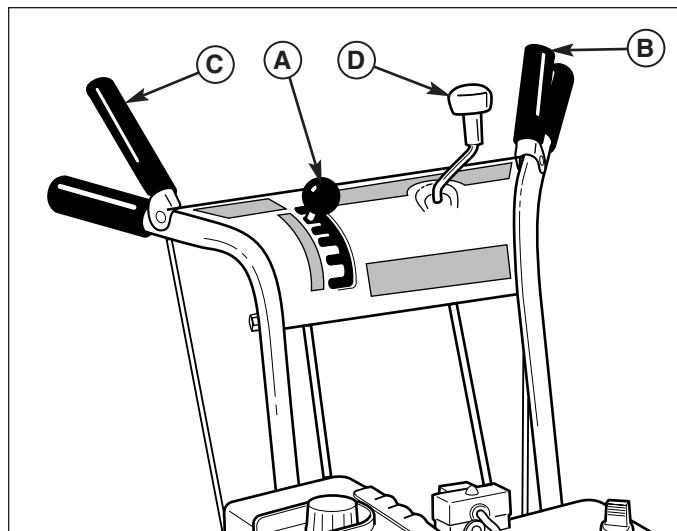

Figure 7. Operator's Control Position
3. Fully press and hold the auger control (C, Figure 7) on the right-hand grip to begin auger rotation. To disengage the auger, completely release the lever.
4. Fully press and hold the traction drive control lever (B, Figure 7) on the left-hand grip to engage the traction drive and begin moving the snowthrower. To disengage the traction drive, completely release the lever. If engaged at the same time, the drive control (B) will lock the auger control (C) in the engaged position. Releasing the drive control (B) will release the auger control (C).
5. Select forward or reverse speeds as needed using the speed selector (A, Figure 7). Release the drive control lever whenever changing drive speeds.
Use the speed selector (A, Figure 7) to control the drive speed of the snowthrower. There are five forward speeds and two reverse speeds.
To change speeds, first release the traction drive control lever (B, Figure 7), then move the speed selector to the desired speed setting. Fully press the traction drive control lever to resume operation.